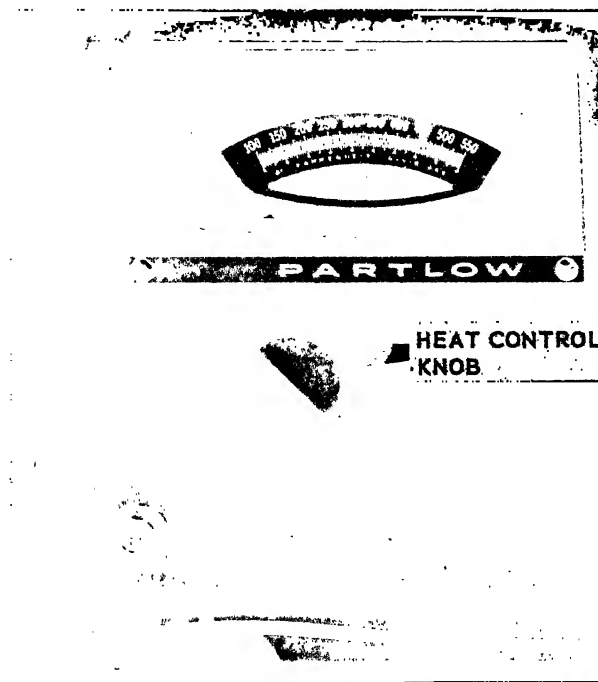

FIGURE 14. HOT OIL TEMPERATURE CONTROLLER
2. Operation. Refer to Fig. 14 to operate the hot oil heater.